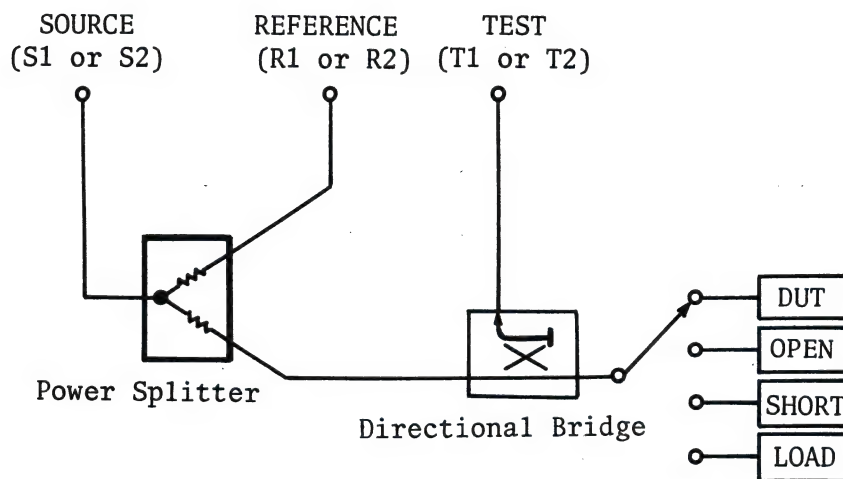

Figure 4-3. Reflection Calibration Diagram
2. Connect a directional bridge, a power splitter and the network under test as appropriate for the selected measurement -- the DUT position shown in Figure 4-3.
8. Enter a good estimation of the OPEN standard's calibrated conductance in Siemens (S) and parallel capacitance in Farads (F) units separated by a comma (,). For example, you would press the following keys if the calibrated value is 0S + 310fF.
15. Disconnect the network under test, and connect the SHORT reference termination -- the SHORT position shown in Figure 4-3.
17. Disconnect the SHORT reference termination, and connect the LOAD reference termination -- the LOAD position shown in Figure 4-3.
19. Disconnect the LOAD reference termination, and connect the OPEN reference termination -- the OPEN position shown in Figure 4-3.
21. Connect the network under test -- the DUT position shown in Figure 4-3.